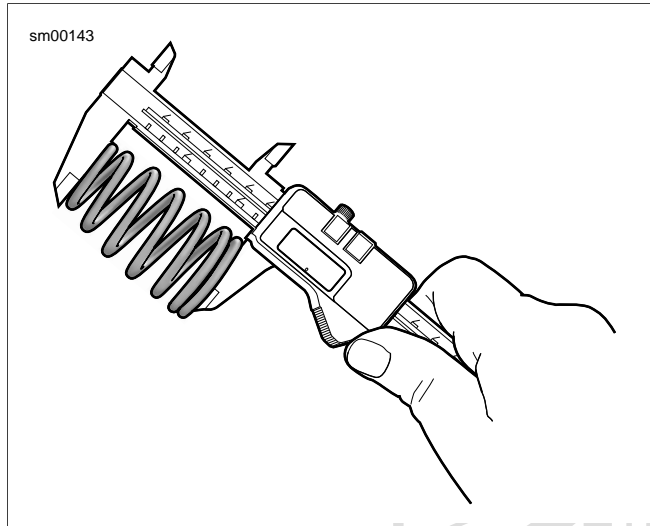

Figure 3-54. Checking Spring Free Length
2. See Figure 3-54. Check free length and compression force of each spring. Compare with 3.2 SPECIFICATIONS. If spring length is shorter than specification or if spring compression force is below specification, replace spring.